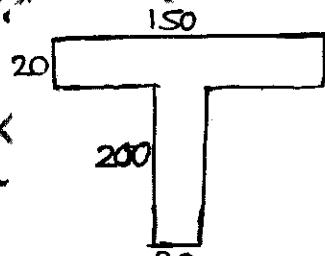

Fig. Q7 (b) (Q)
b. Draw shear stress distribution across the cross section for the section shown in Fig. Q7 (b). Take shear force = 100 kN. (10 Marks)